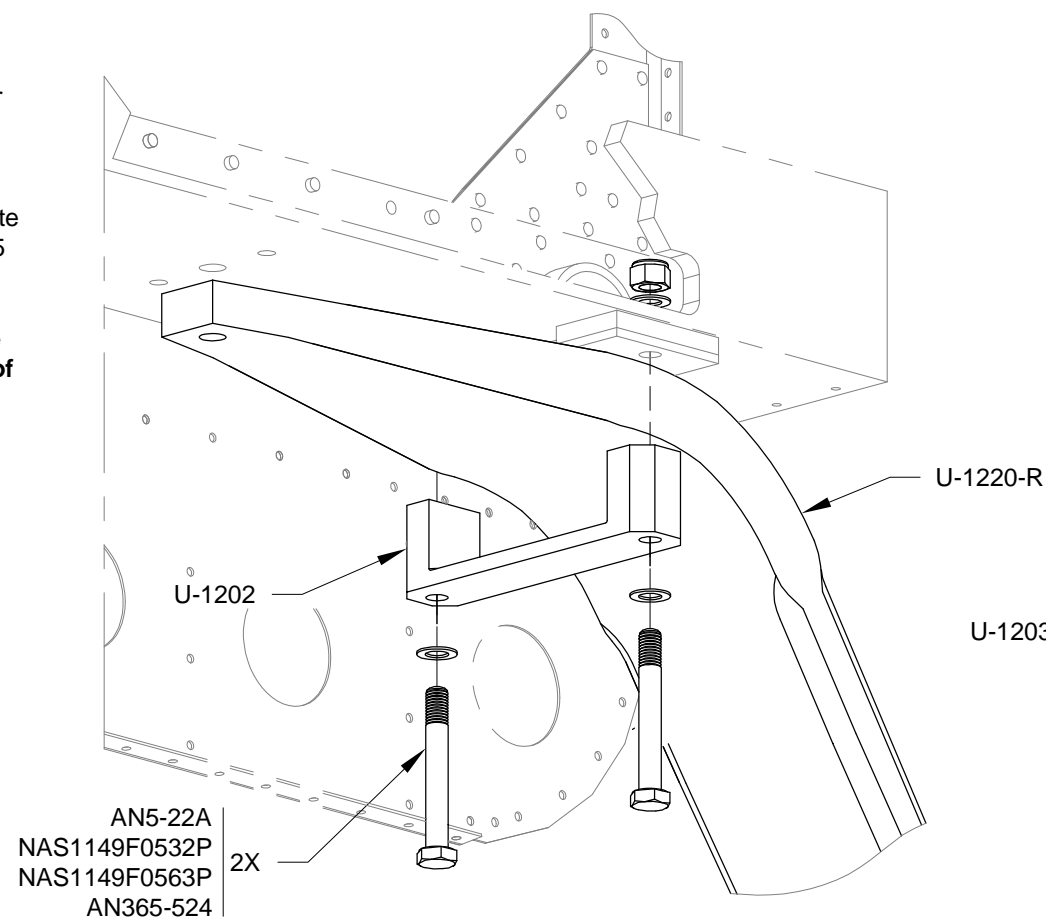

FIGURE 2: GEAR LEG ATTACH OUTBOARD
Step 4: Maneuver the U-1220-R Gear Leg and U-1202 Outboard Main Gear Attach Bracket into position at the same time as shown in Figure 2. Insert the two bolts with washers and nuts but don't tighten them down yet.